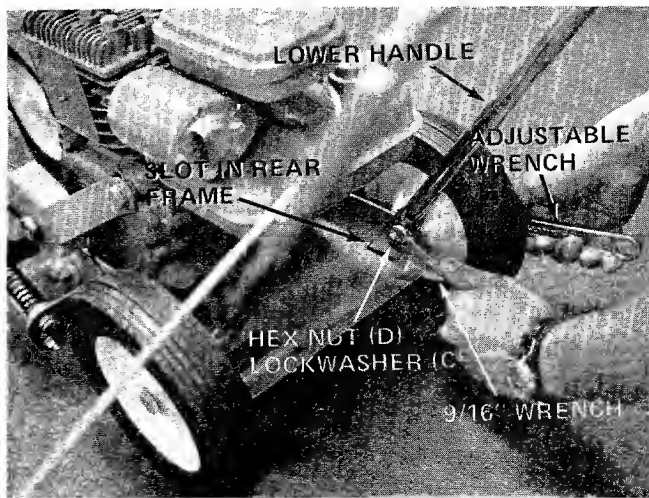
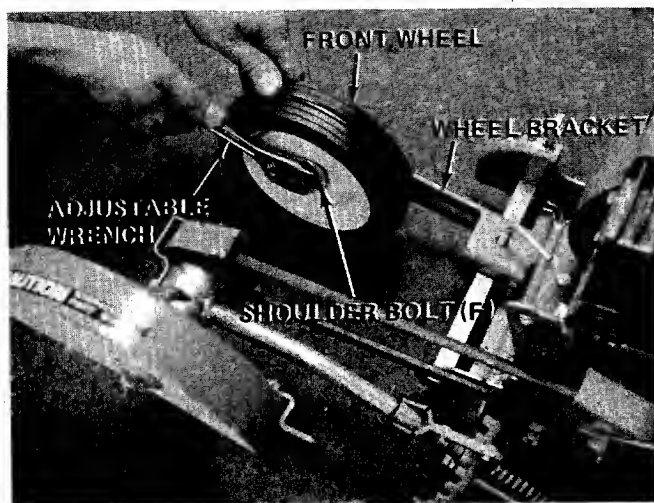

FIGURE 4.
FIGURE 5.
3. Place lower handle into slots on rear of frame. Line up holes in lower handle with holes in frame. Secure lower handle to frame with rear wheel shoulder bolts, lock washers (C) and hex nuts (D). See figure 4. An adjustable wrench and 9/16" wrench is required.
4. Place short shoulder bolt (F) through front wheel. Place belleville washer (B) (crown side towards wheel) over shoulder bolt next to wheel.
5. Assemble front wheel to wheel bracket. See figure 5. An adjustable wrench is required.